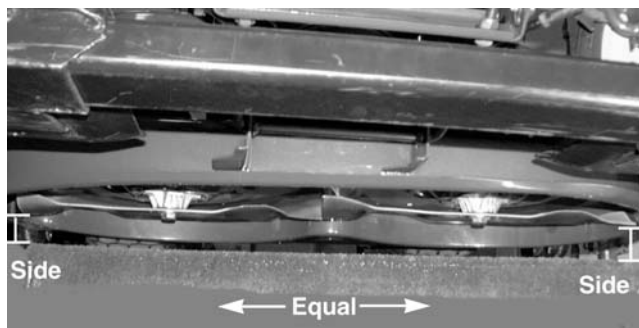

Figure 9-6.
2. Measure the outer blade tips to ground. both measurements taken should be equal. See Figure 9-6.